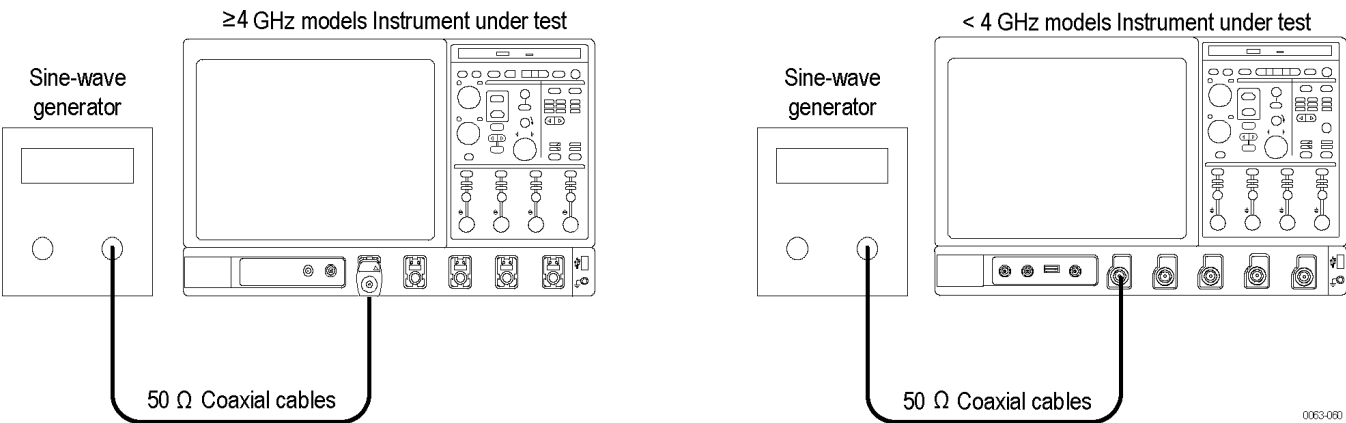

Figure 41: Serial trigger baud rate test hookup
- a. *Hook Up the test-signal source:* (See Figure 41: Serial trigger baud rate test hookup.)